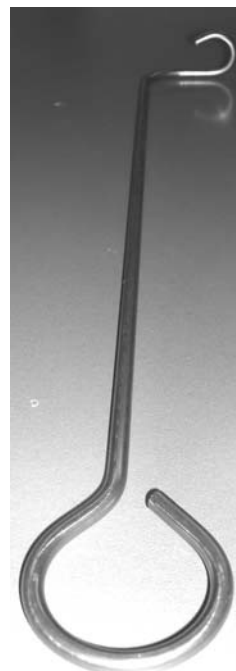

Figure 9.1: Jet Insert Removal Tool
- f) Using the Jet Insert Removal Tool shown in Figure 9.1, that is included with the boiler, remove the two sets of jet inserts. Figure 9.2, 9.3 and 9.4 show the removal of the inserts.